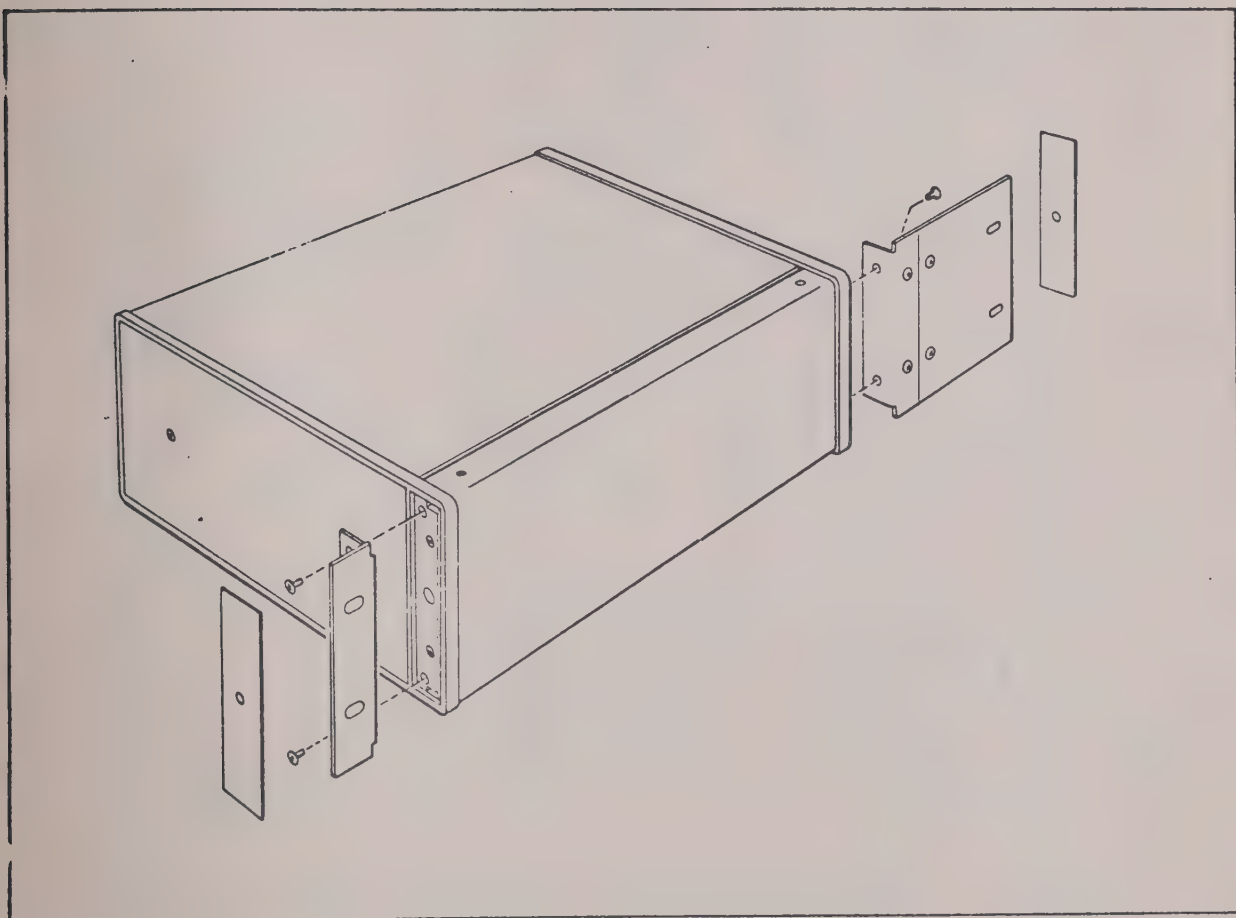

Fig.3.1, Rack Mounting
3.1.2.1 Ailtech Generators are ready for bench operation as shipped from the factory. If specifically ordered, the necessary parts for rack mounting are packaged with the instrument. To convert to rack installation refer to Figure 3.1 and proceed as follows: